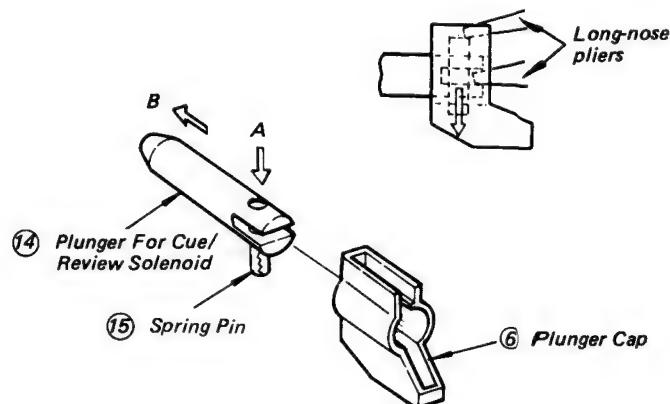
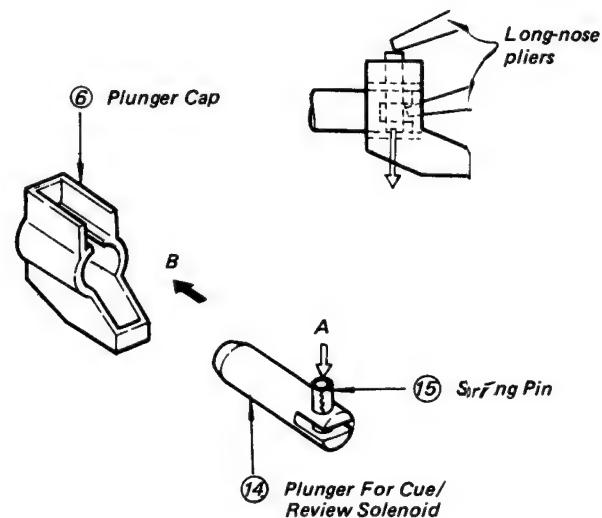

Fig. 5-82 Plunger Removal
Fig. 5-83 Plunger Installation
2. Remove the screw ⑬ holding the lift arm holder ③.
3. Take out the lift arm holder ③ for removal.
4. Remove the two screws ⑫ holding the cue/review solenoid ④ body.
5. Replace the cue/review solenoid ④ body.
6. Push the spring pin ⑯ is the direction A (↓) into the plunger ⑭ of the cue/review solenoid using a long-nose pliers (see Fig. 5-82).
7. Pull the plunger ⑭ in the direction B (←) out of the plunger cap ⑥ for removal.
8. To reinstall, insert the plunger ⑭ into the plunger cap ⑥ by pushing in the direction B (→).
9. Then, push the spring pin ⑯ to the center of the plunger cap ⑥ by pushing in the direction A (↓) (see Fig. 5-83).
10. Put the cue/review solenoid ④ in position together with the plunger ⑭.
11. Then, tighten the two screws ⑫ to temporarily hold them to the planetary gear unit assembly ①.
12. Tighten the screw ⑬ to hold the lift arm holder ③ with the lift arm fitted with the plunger cap ⑥.